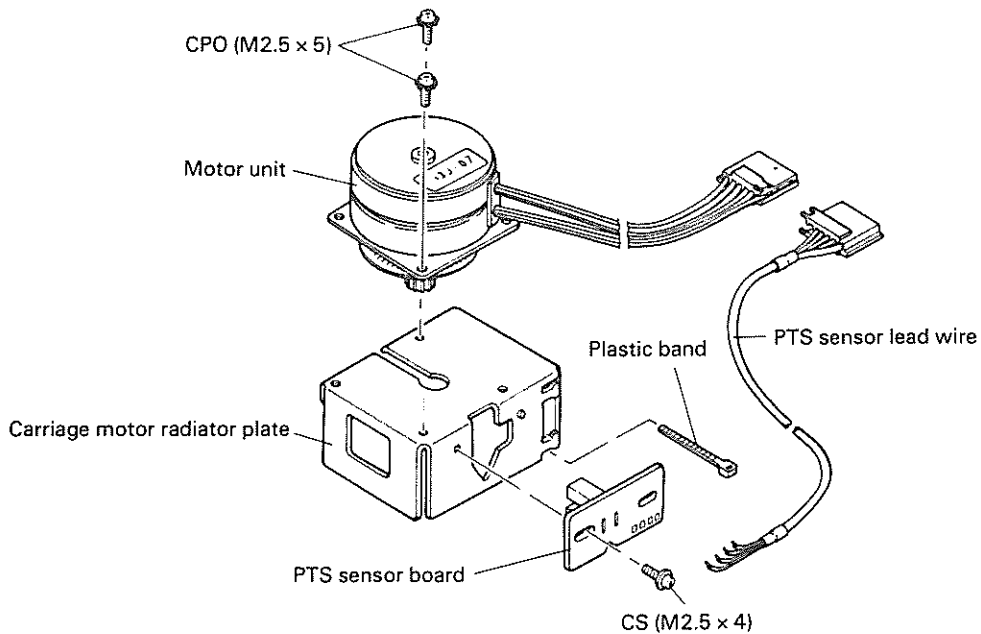

Fig. 4-22. Removal of Carriage Motor
(1) Removal of Carriage Motor (Fig. 4-22)